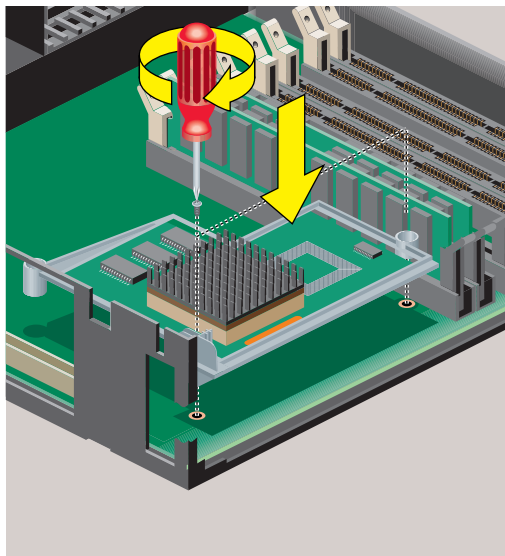

Figure 5-6 Installing the Replacement CPU Module
7. Install the replacement R5000 CPU module (Figure 5-6).
- Insert and tighten the two Phillips screws in the locations shown (Figure 5-6).